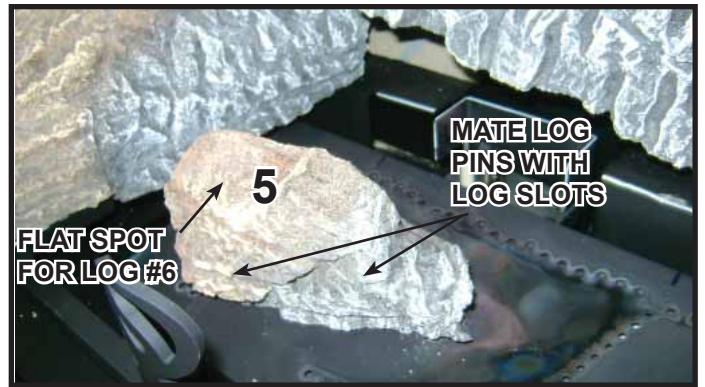

Figure 12. Place Log #5
**Log #5 (SRV2225-710):** Position Log #5 as shown in Figure 12. Mate the middle and left log pins with the two slots located on the bottom of the log. See Figure 13 for locations of log slots. The smaller end should be pointed toward the right side of the firebox.
**Log #6 (SRV2225-706):** Rest the wide end of the log on the flat spot of Log #5 as shown in Figure 12 and Figure 14. Place the narrow end on the flat spot of Log #2. Flat spot on Log #2 is indicated in Figure 7.